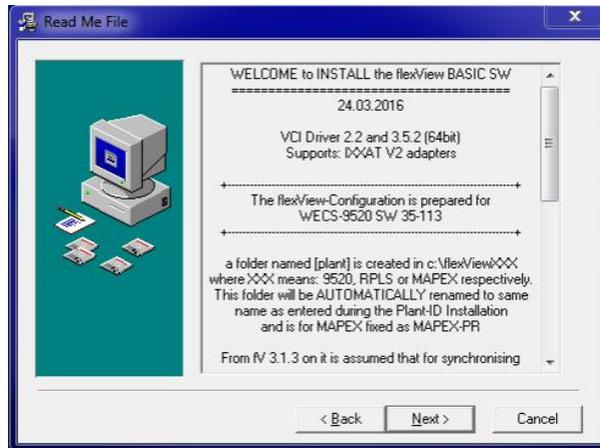

Fig. 3
- Carefully read the “readMe” file and click **Next** again as shown in Figure 3.